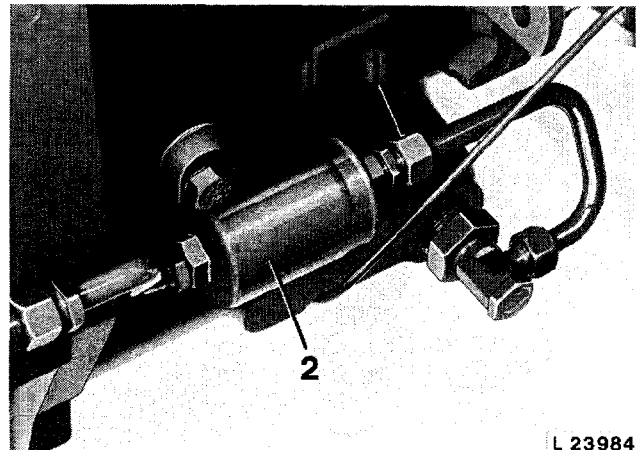

Fig. 10 – Hydrostatic Steering Filter
1. Remove union nut 1 (fig. 10) from return line.
6. *On tractors without cab or equipped with OPU cab and hydrostatic steering:* Replace hydrostatic steering filter 2 (fig. 10) (see Filter Change).